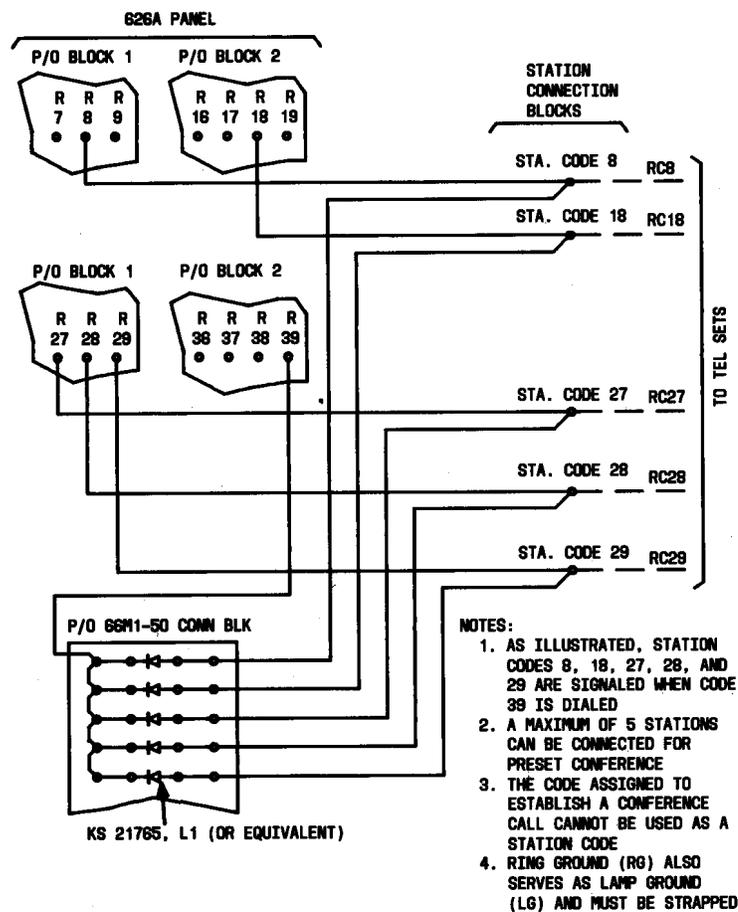

Fig. 16—Typical Preset Conference Arrangement
4.15 To connect preset conference, a lead is strapped from the R( ) terminal of the designated code to an external 66-type connecting block for distribution, via diodes (5 maximum), to the signaling leads of the selected conference stations. A typical preset conference arrangement is shown in Fig. 16. As illustrated in Fig. 16, stations 8, 18, 27, 28, and 29 are signaled when code 39 is dialed. In this arrangement, code 39 cannot be used as a station code.